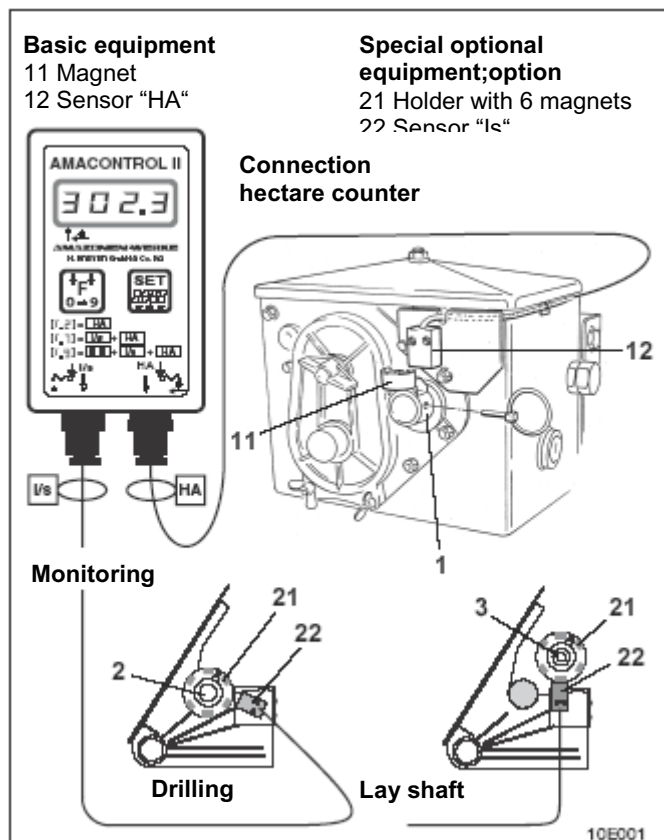

Fig. 2.1
Fig. 2.1 shows the attachment points for the sensors and magnets on the gearbox input shaft (1), drilling shaft (2) and lay shaft (3).